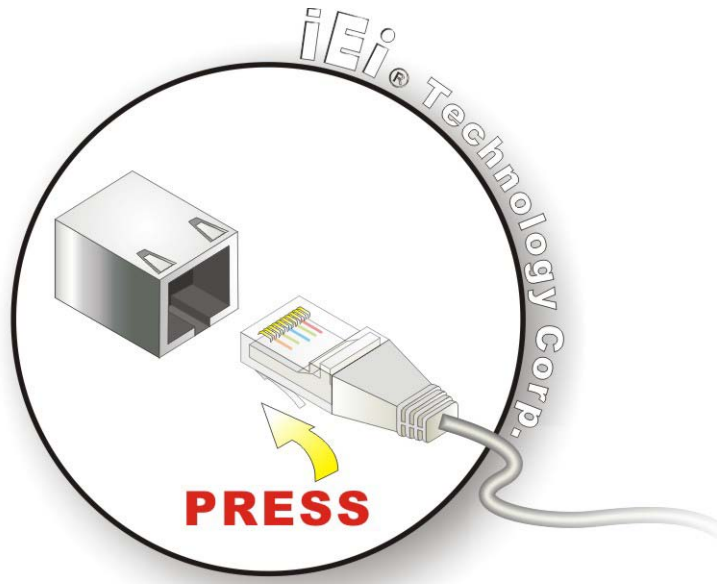

Figure 3-8: LAN Connection
Step 2: Align the connectors. Align the RJ-45 connector on the LAN cable with one of the RJ-45 connectors on the ECN-360A-HM65. See **Figure 3-8**.